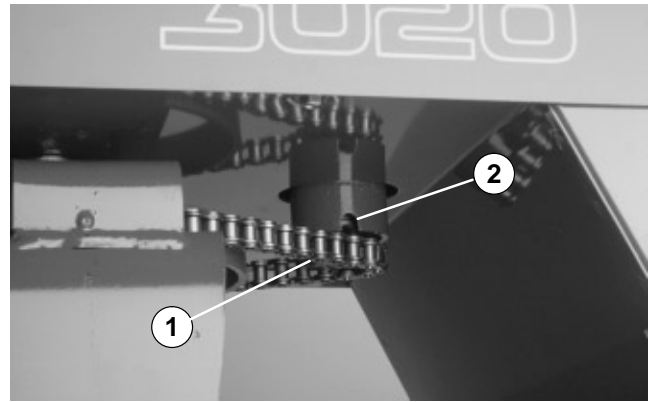

Figure 17
2. Remove drive-lock pin from the sprocket and lower steering shaft with drift punch (Fig. 17).
3. Secure sprocket to the lower steering shaft with **new** drive-lock pin (Fig. 17).